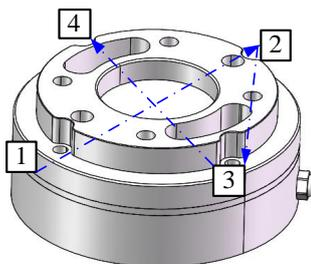

Figure 2-19 Screw Tightening Sequence
- c. Install the mounting flange on the robot: Use $\phi 5$ positioning pins to position the mounting flange and the robot, and use four M6 hexagon socket screws to fix them. The positioning pins make it easy to install and connect the device repeatedly, and they will not affect sensor performance if not used. Gradually tighten the screws according to the diagonal sequence shown in Figure 2-19 to deliver uniform contact between the sensor and the robot or adapter tooling.